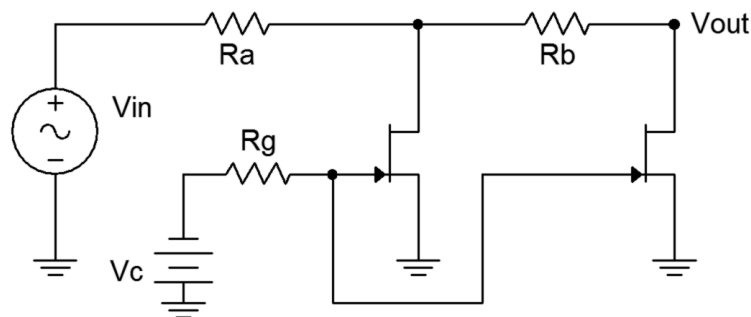

Figure 2
5. Build the circuit of Figure 2 with $R_a = R_b = 4.7\text{ k}\Omega$ and $R_g = 10\text{ k}\Omega$. Set V_{in} to 100 mV peak at 1 kHz. Set the control voltage, V_C , to 0 VDC. Measure the signal at V_{out} using the oscilloscope and record the value in Table 2.